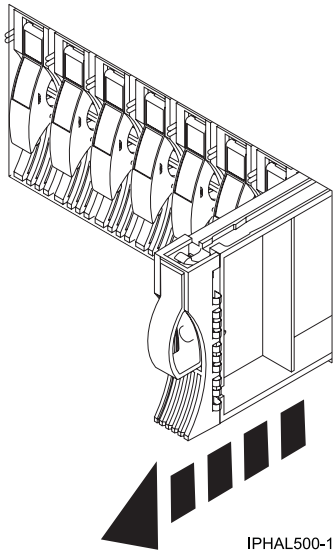

Figure 104. Removing a disk-drive filler from a model or 7311-D20
4. Pull the disk-drive filler from the slot. Pull the disk-drive filler from the slot that you want to use, as shown in Figure 104 on page 118.